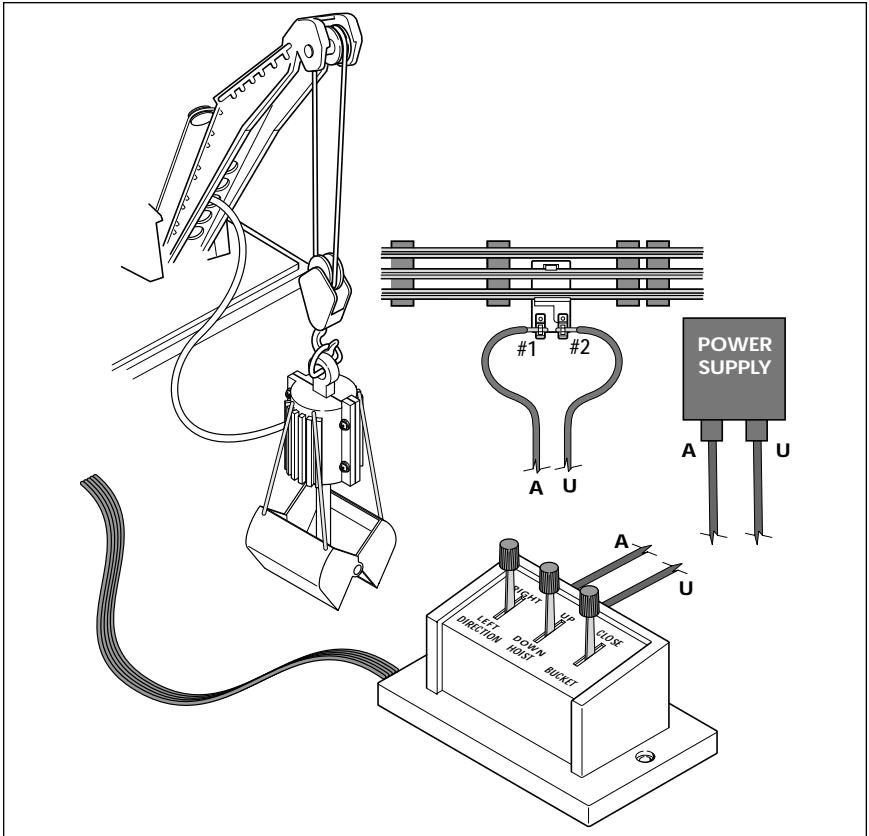

Figure 1. Power connections
To wire the Gantry Crane, simply connect the two black wires on the controller to the accessory terminals on your transformer, an accessory power supply, or a Lionel Lock-On (available separately, part no. 6-62900). The Gantry Crane operates best at 12-18 volts (AC). Figure 1 illustrates the wiring of this accessory.